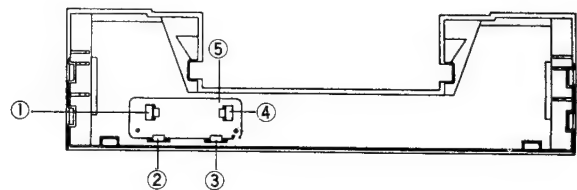

Fig. 5
1. Remove the front panel assembly (Refer to step ④)
2. Pull hooks ① to ④ in Fig. 5, and then remove the control pcb ⑤